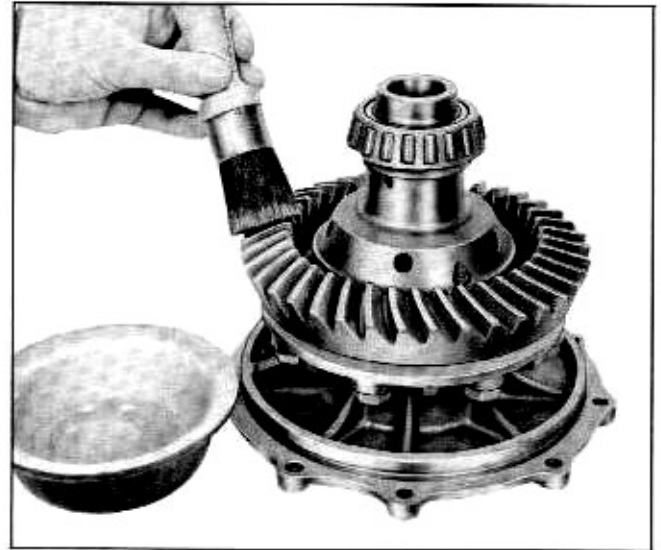

Fig. 4-56 Painting Ring Gear
19. Paint ring gear with red lead as described on page 4-25 (Fig. 4-56).